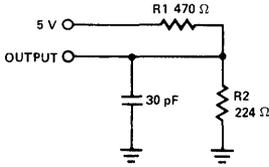

Figure 1a
- Test conditions assume signal transition times of 5 ns or less for the -15 product and 10 ns or less for the -25 and -35 product. Timing reference levels of 1.5V and output loading of the specified I_{OL}/I_{OH} and 30 pF load capacitance as in *Figure 1a*.